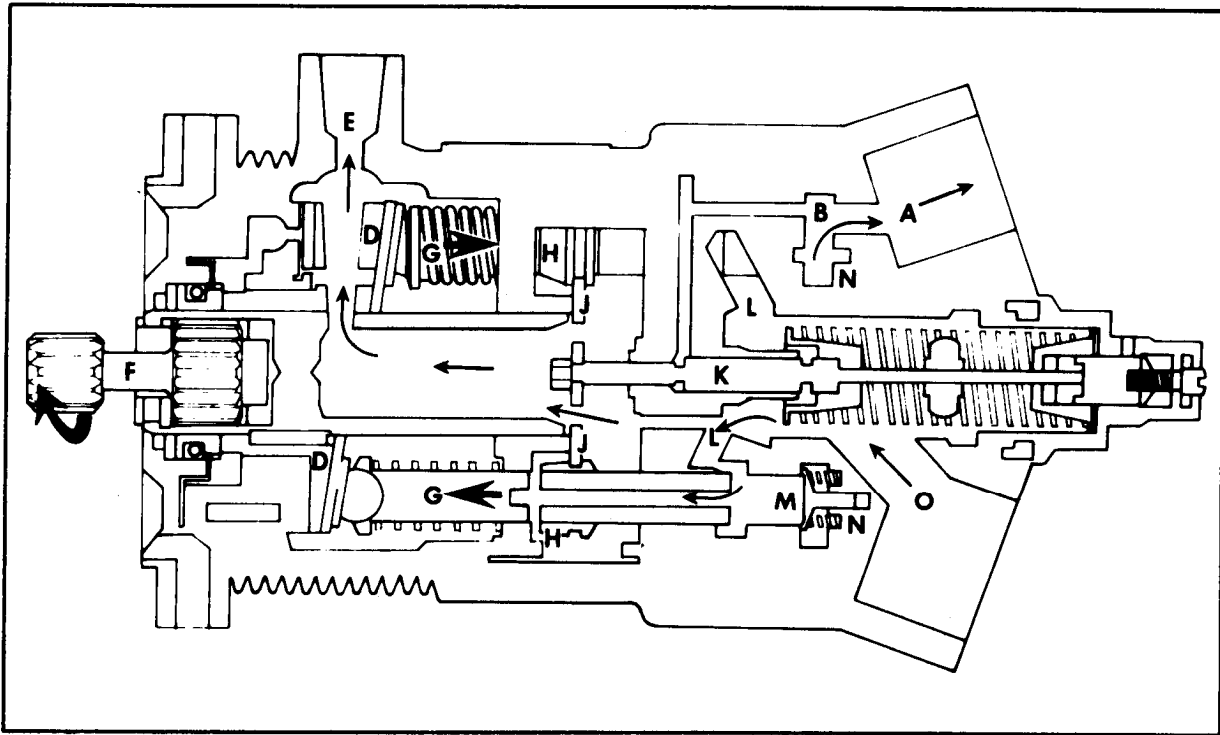

**Figure 6-4. Foot valve (located inside the bearing around which the cylinder block rotates).**
In Figure 6-4, the foot valve (F) is located inside the bearing around which the cylinder block rotates. Other models have the valve in the head, along with the intake and outlet ports. Some of the newer models have two foot valves located in the head. The direction in which the accessory drive rotates determines the direction of pump action. An arrow on the pump head indicates the direction of rotation for which the pump is set up. The direction of rotation of a piston-type pump with one foot valve can be reversed. To reverse the direction, remove the cylinder block head, rotate